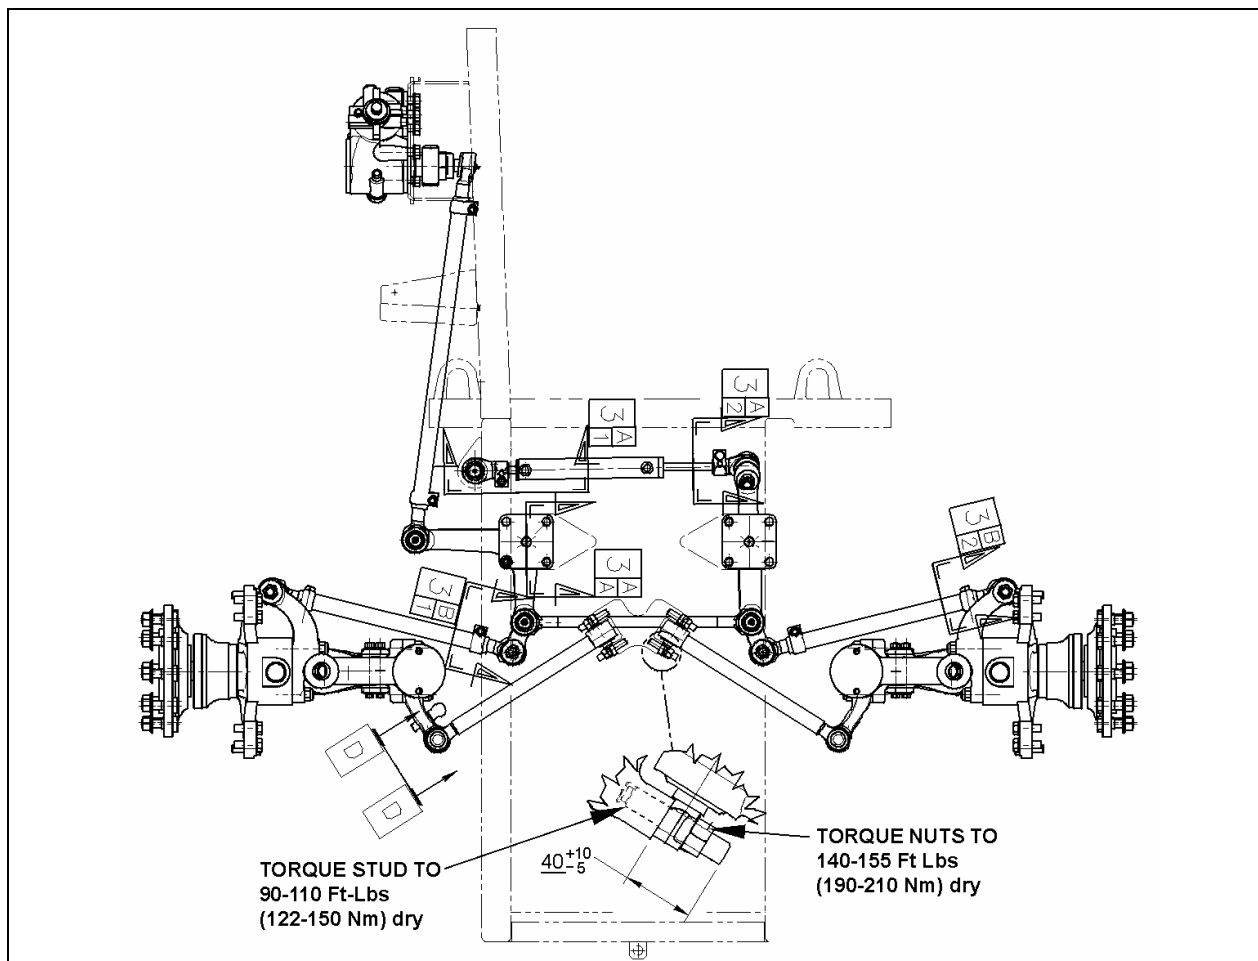

FIGURE 2: LOCATION OF CLAMPS
2. For a full left and right turn, check clamps' position and for interfering parts. Refer to figures 2 to 7 for location and positioning of clamps. If readjustment is required, make the proper adjustment.